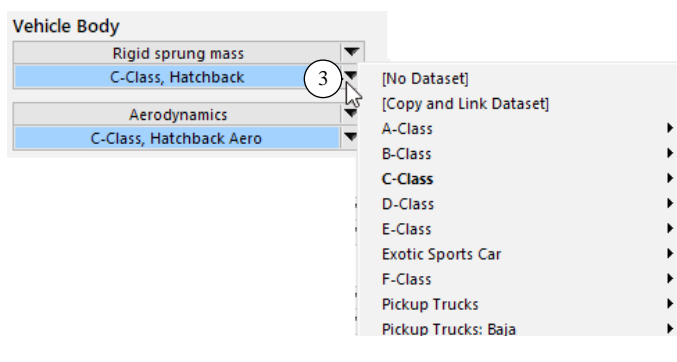

Figure 9. Datasets in the linked library.
The drop-down control to the right of the blue link (3) (Figure 9) shows all datasets in the selected library when pressed. Choose any dataset name from the drop-down control to configure the blue link to use that dataset or copy an existing dataset to make a new dataset that can be modified as needed.